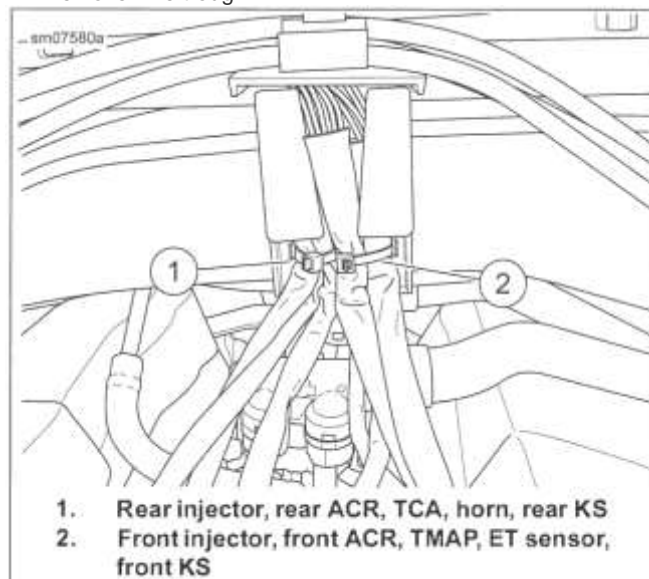

Figure 8-112. Breakout Harnesses
10. See Figure 8-112. Cut two cable straps to release breakout harnesses from right side of wire trough.
5. See Figure 8-112. Secure breakout harnesses in rear of breakout compartment with **new** cable strap. Do not tighten.